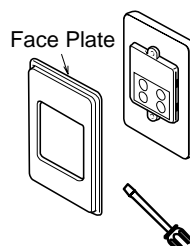

Fig. 3
4. Carefully remove face plate from Remote Control, using a screw driver. (Fig. 3)